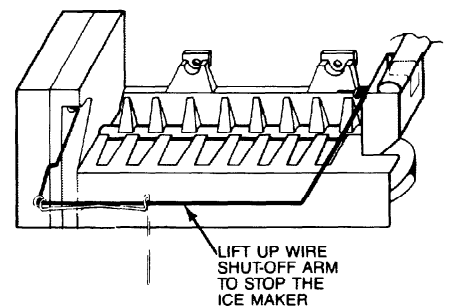

FIGURE 23
2. **To stop ice production or to remove the ice bin:** Take hold of wire arm near black housing, and lift up. There will be an audible "click" when ice maker shuts off. The wire arm stays in the upper position. See Figure 23. As long as the arm is in this position, ice will not be made. The unit will continue to dispense cubes from the ice bin until all have been used.